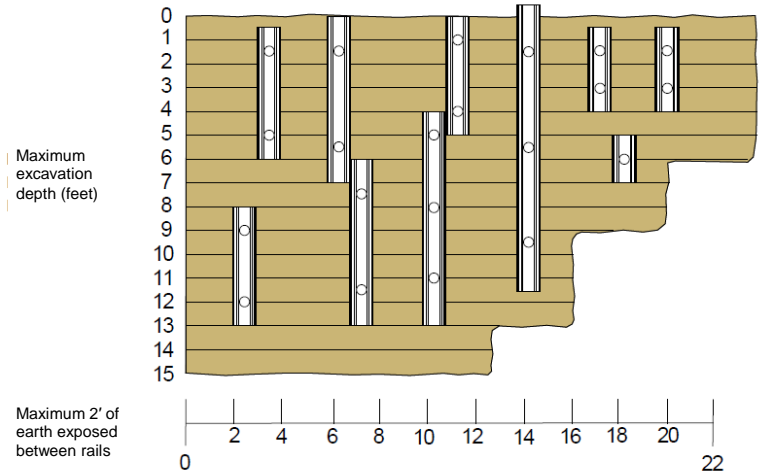

Figure 4-2. Sample placement of hydraulic rails
Install hydraulic shores with the rails vertical and the hydraulic cylinders horizontal. Offset the rails vertically to ease their installation and removal (see Figure 4-2 on page 4-6).
- No more than 2' of earth exposed between the rails vertically. See first two rails in Figure 4-2.